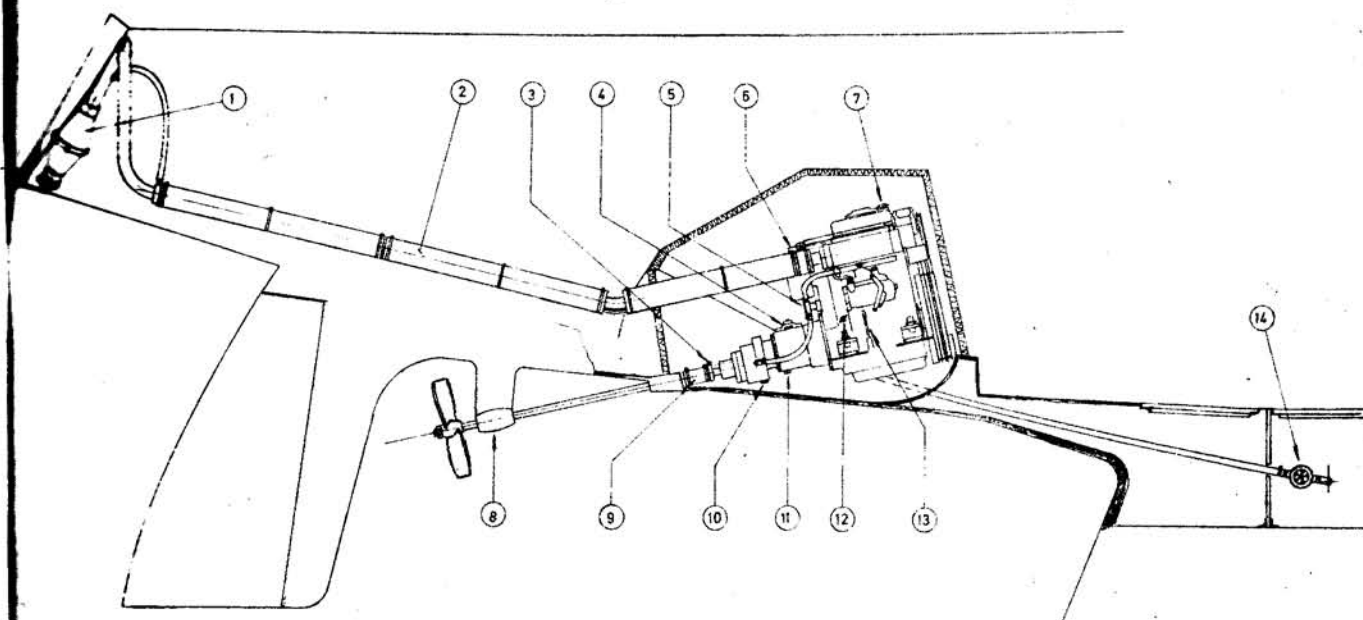

Fig. 7
8. Unscrew the plug on the propeller shaft inner stern bearing (Fig. 7) and check that it is almost filled with grease. Add grease if necessary. A suitable type is a soft, water-tight grease, e.g., Shell Alvania in a tube. The grease is squeezed out of the tube into the hole until the grease pocket is more or less filled. Do not apply excessive pressure. A grease gun may not be used. To do so would run the risk of pressing the sealing rings out of the pack box. If there is too much grease in the pocket, the sealing ring may also be forced out when screwing down the plug.